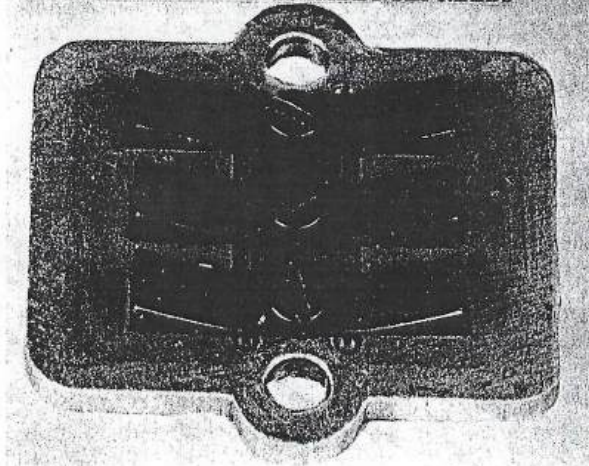

Figure 7
- (F) Check around the entire crankcase for leaks where crankcase halves are joined.
- (G) Remove the carburetor and check the reed plate assembly. The reeds should not be warped, bent or cracked. Also, the reeds should not be opened more than a .005 inch. Note that the Model AH58 has a six reed reed plate. See Figure 7.